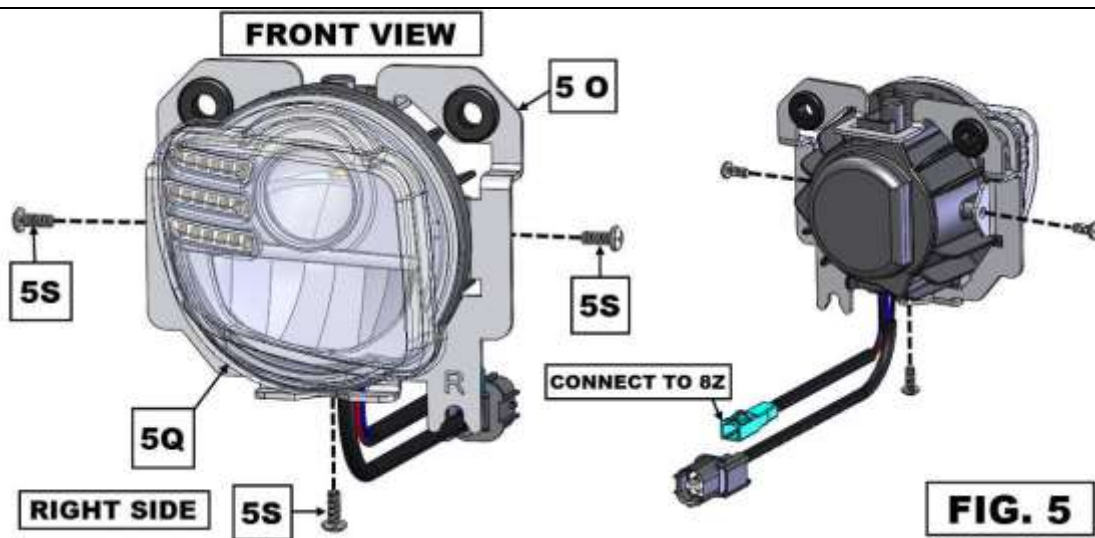

FIG. 5
- TAKE THE RIGHT LED LIGHT (5Q) AND ATTACH THE RIGHT LIGHT BRACKET (5O) TO IT USING THREE OF THE M4 X 10MM PAN HEAD SCREWS (5S). SEE **FIG. 5**.
- UNPLUG THE CONNECTOR IN EACH MIRROR AND ADD IN THE NEW HARNESS AS SHOWN IN **FIG. 9**. CONNECT THE OTHER END TO EACH FOG LIGHT. SEE **FIG. 5**.